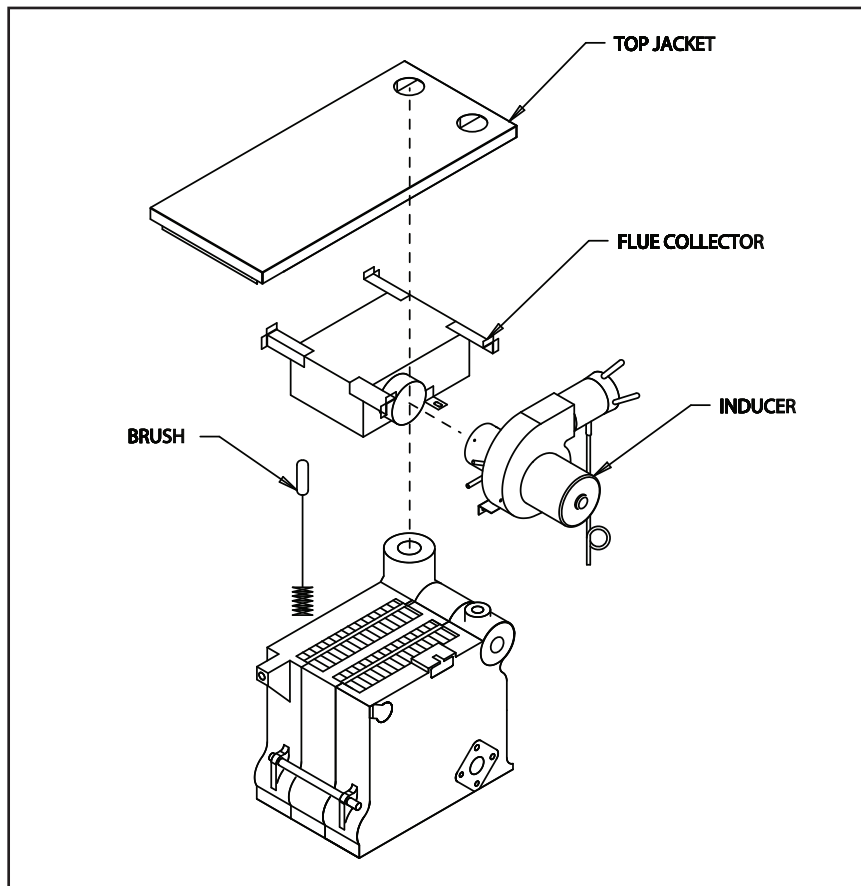

Figure 22. Flue passage cleaning illustration
- A. Flue passage cleaning See Figure 22